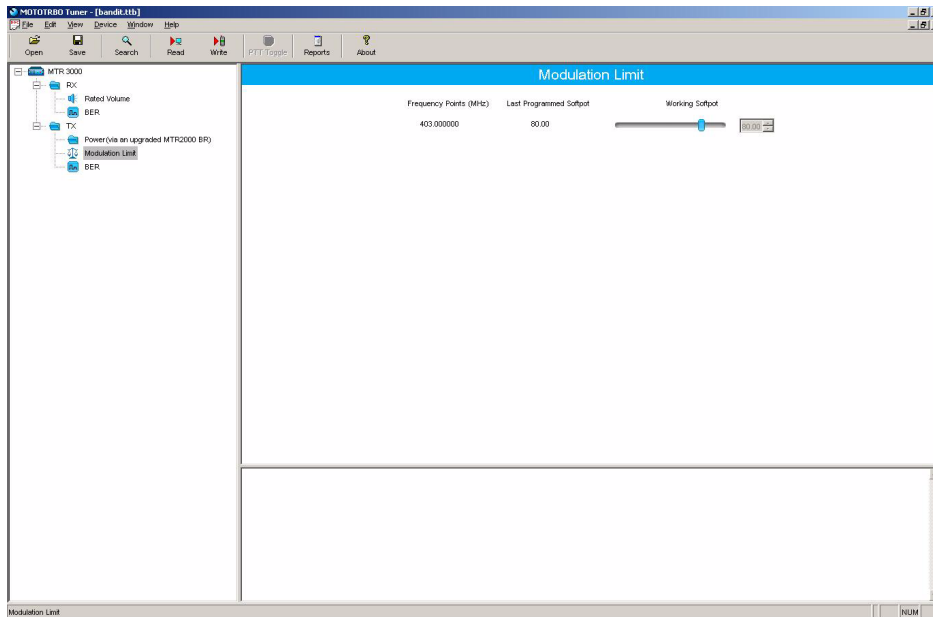

Figure 12-6. Tx Menu tree (Tuning Procedure with no Tx data)
5. Select “Modulation Limit” under the Tx menu in the tree view (Refer to Figure 12-6).